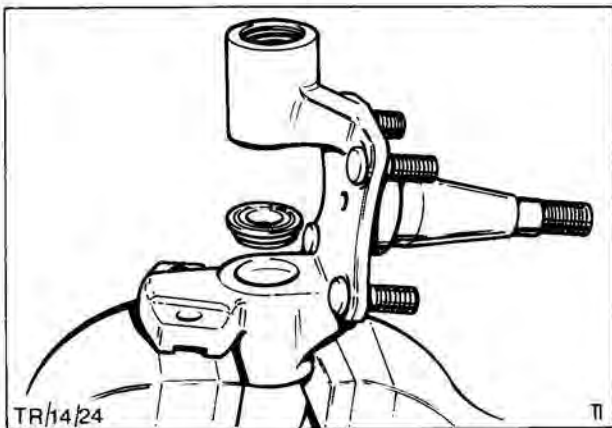

Fig. 24. Removing bearing from lower kingpin hole
13. Push out bearing from lower kingpin hole, Fig. 24.